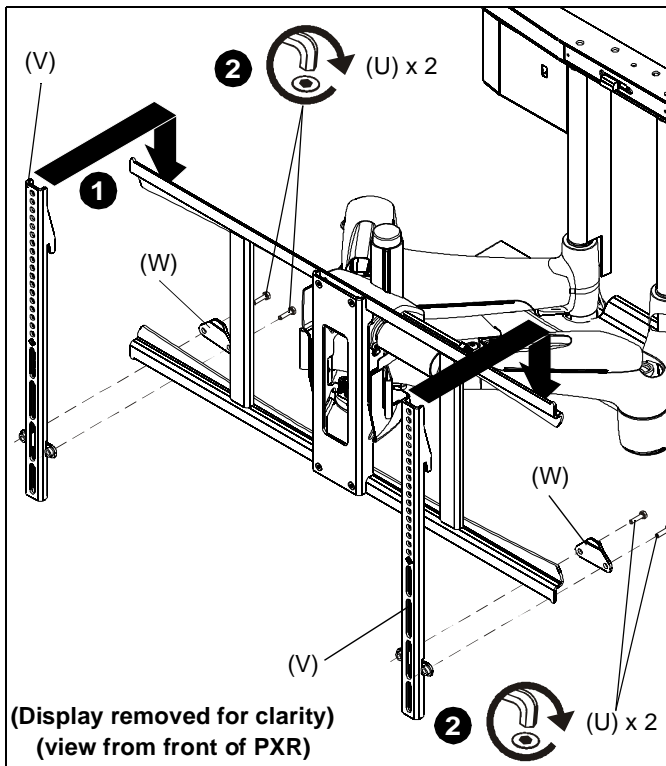
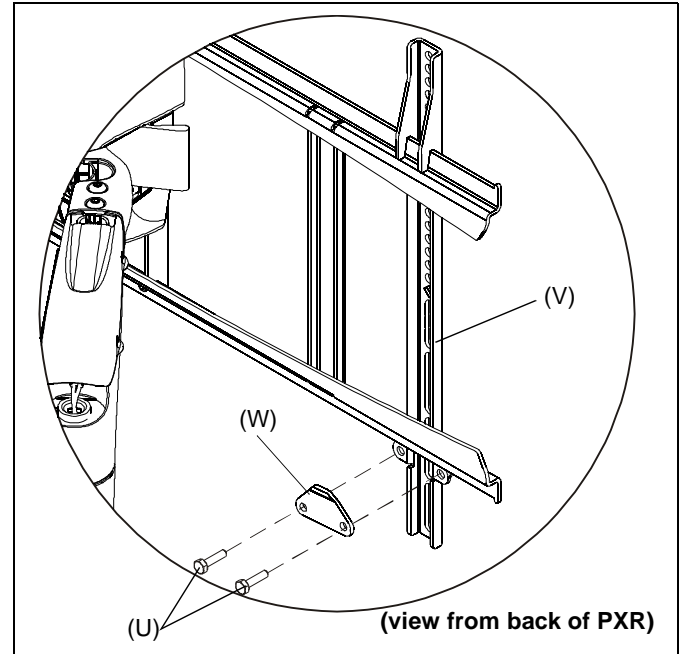

Figure 26
Figure 28
1. Hang display onto the PXR, ensuring that top hooks of interface brackets (V) are hooked over the PXR top rail. (See Figure 26)
2. Lock display with attached interface brackets to PXR using two bracket locks (W) and four 1/4-20 x 1/2" hex head cap screws (U). (See Figure 26) and (See Figure 28)